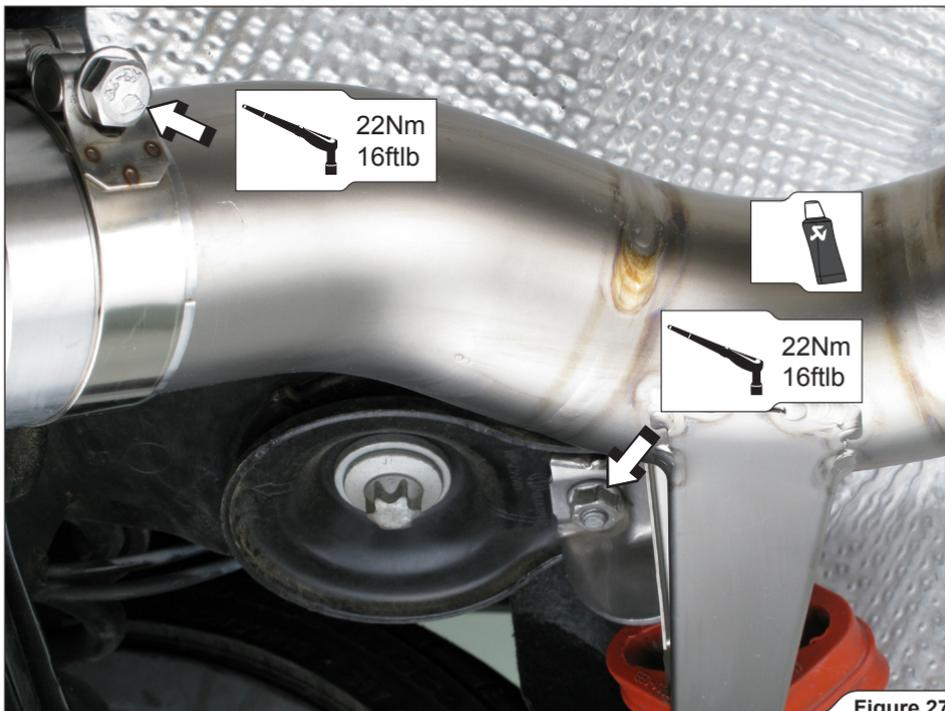

Figure 27
13. **For Slip-On and Evolution:** push the middle and muffler pipes on both sides together, slide and adjust the double clamp over the joint and tighten all clamps and stock rubber brackets to a specified torque (**Figure 27**).